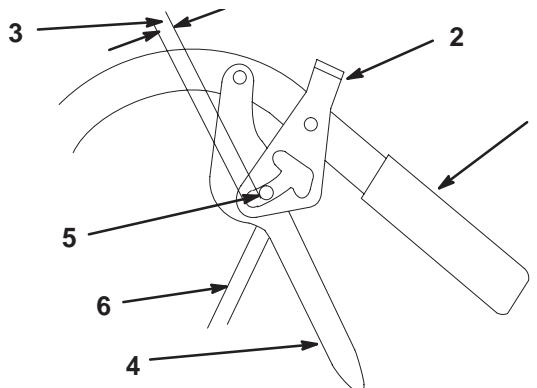

Figure 12
5. Adjust the control rod length by rotating the turnbuckle until there is 3/16 to 1/4 inch (5 to 6mm) clearance between the control rod end and the bottom of the neutral/parking brake lock slot with the drive lever in the drive position (Fig. 12).